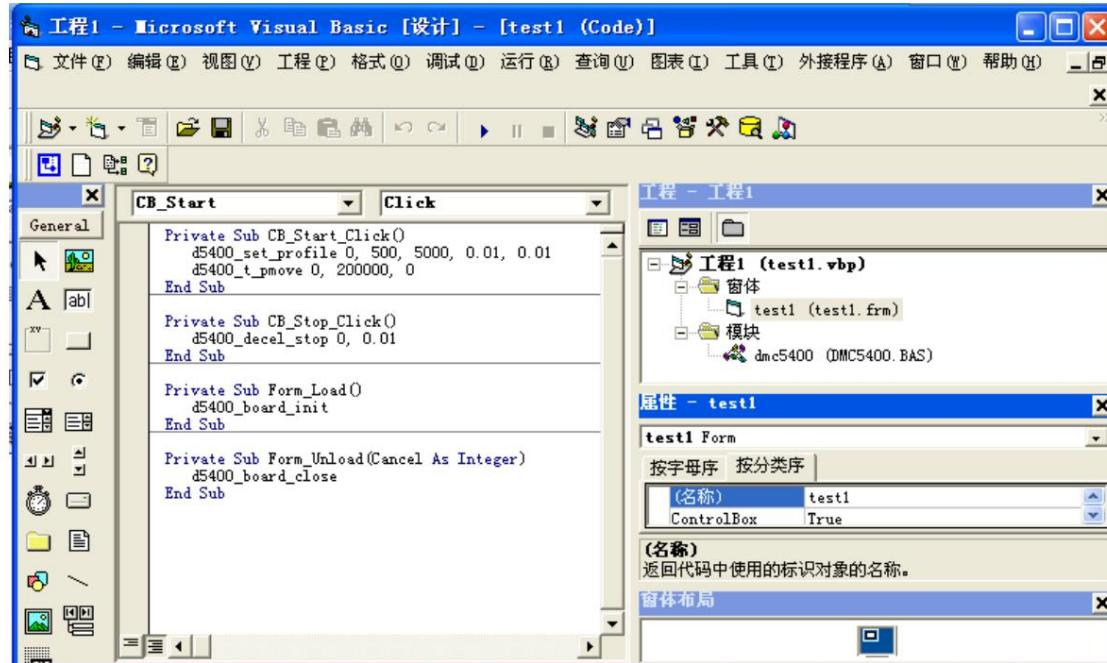

Figure 7-5 Call motion control card library function (VB) in the program
- (6) As shown in Figure 7-5, double-click the window control and add code in the Form_Load event